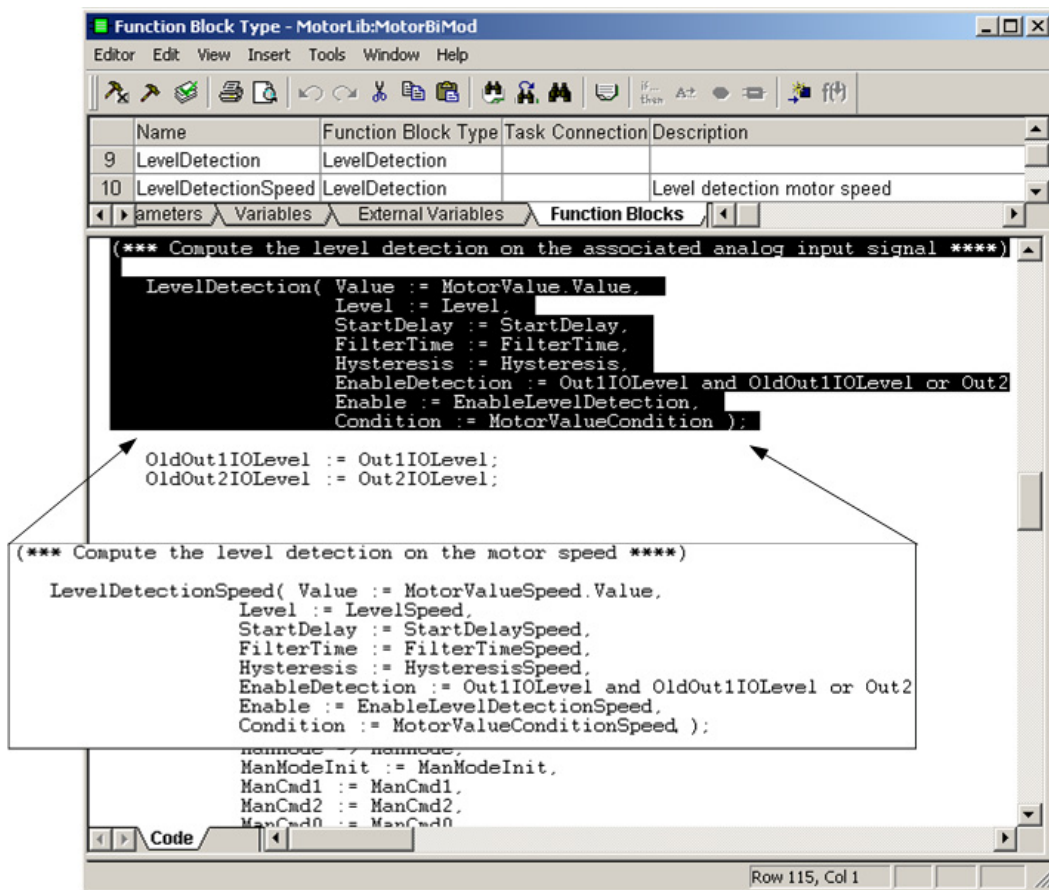

Figure 138. Level detection functionality added to the MotorBiMod function block type
4. According to Figure 138, declare the new function block (LevelDetectionSpeed), change the function block name in the code pane and declare the required variables. Connect the parameters by right-clicking on the function block in the code pane and selecting **Edit>Parameter list** (Ctrl+M).